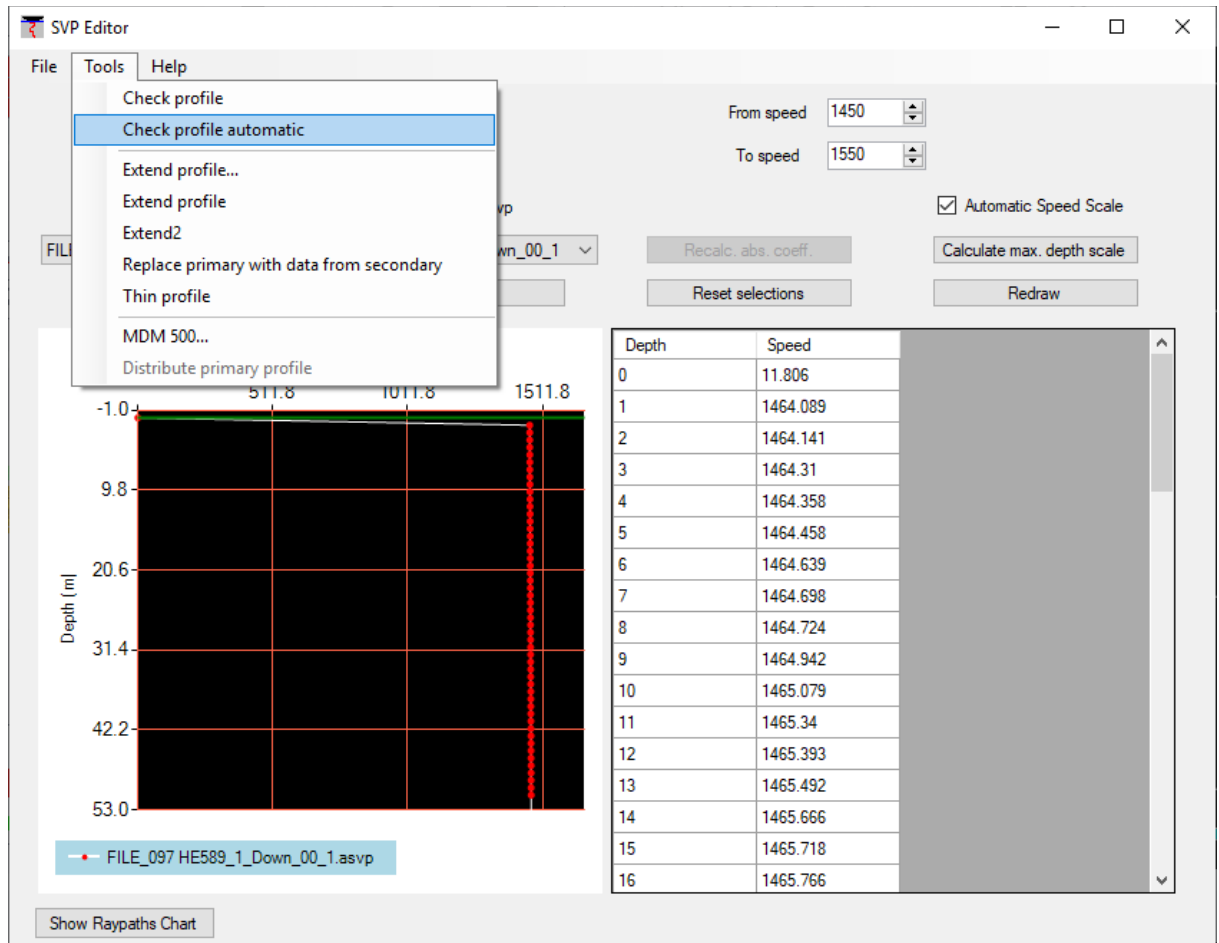

Figure 14: Check profile
- Select the delimiter from the drop-down list. Choose "<tab>". (Figure 14)